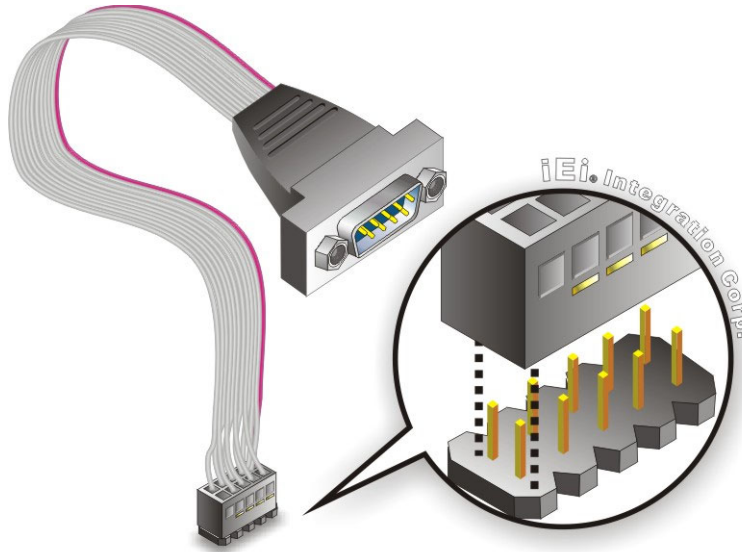

Figure 4-19: Single RS-232 Cable Installation
Step 2: **Insert the cable connector.** Insert the connector into the serial port header. See **Figure 4-19.** A key on the front of the cable connector ensures the connector can only be installed in one direction.